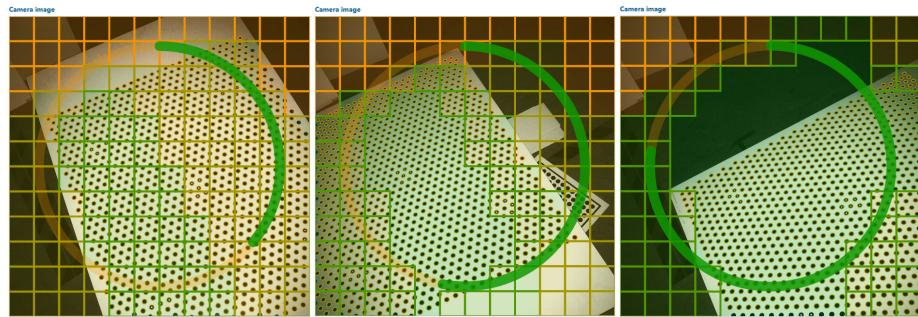

Figure 12: 30% coverage Figure 13: 50% coverage Figure 14: 80% coverage
- ✓ A colored circle and a colored grid are displayed in the image window to indicate the progress (see figure 12, figure 13 and figure 14):